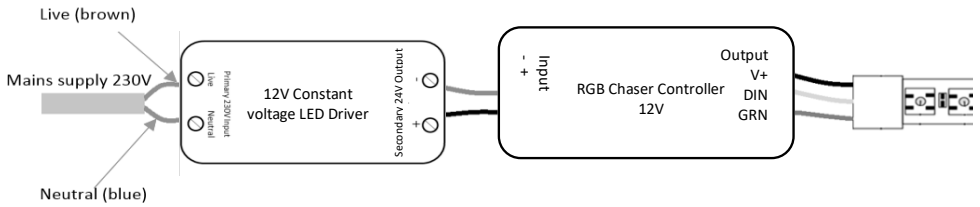

Fig 2
- From the secondary side of the driver connect a red and black cable to the input side of the RGB Chaser controller ensuring correct polarity is observed (+ Red) (- Black) (see Fig 2)